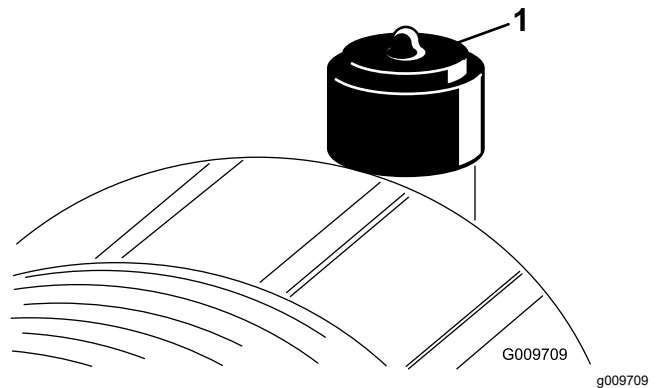

Figure 52
Service the air-cleaner filter only when the service indicator (Figure 52) requires it. Changing the air filter before it is necessary only increases the chance of dirt entering the engine when you remove the filter.
2. Reset the indicator (Figure 52) if it shows red.